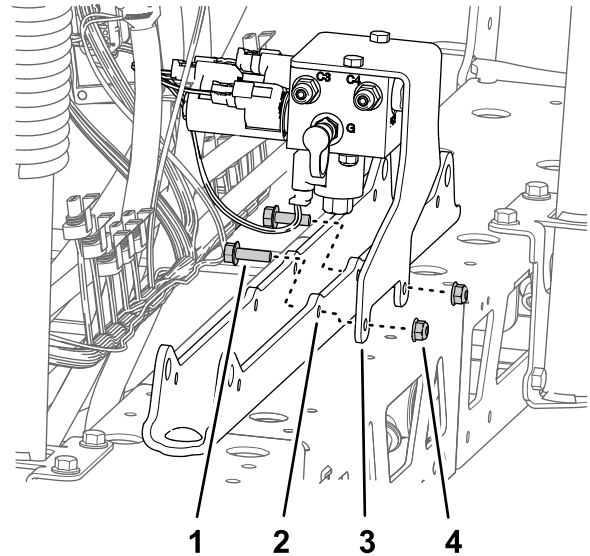

Figure 96
- A. Align the holes in the support bracket for the section-lift manifold with the holes in the cylinder mount (Figure 96).
- B. Assemble the support bracket to the cylinder mount (Figure 96) with the 2 flange-head bolt (5/16 x 1 inch) and flange locknut (5/16 inch) that you removed in step 1 of Removing the Section-Lift Manifold from the Center-Spray Section (page 24).